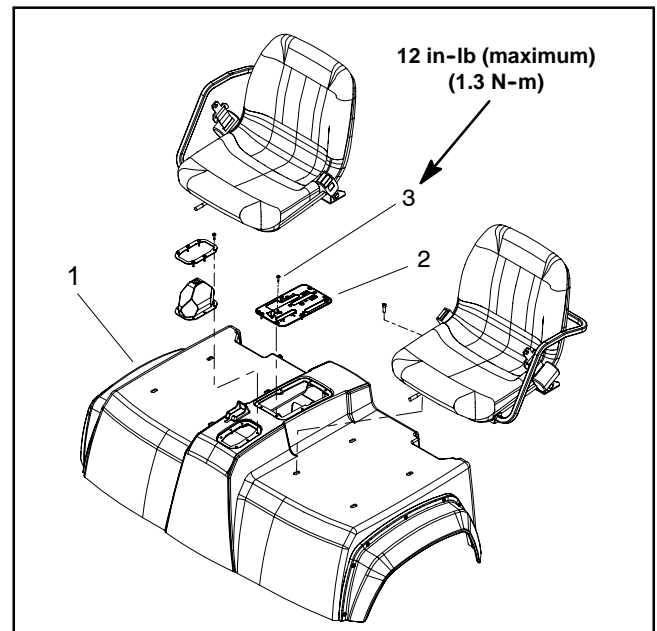

Figure 15
2. Remove knobs from control levers, then remove control plate assembly from seat base (Fig. 15).